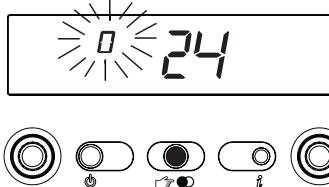

Fig. 78
- **R.A.I. - MIX R.S.I.**: turn the domestic hot water selector until the value on the display is 0 (fig. 78)